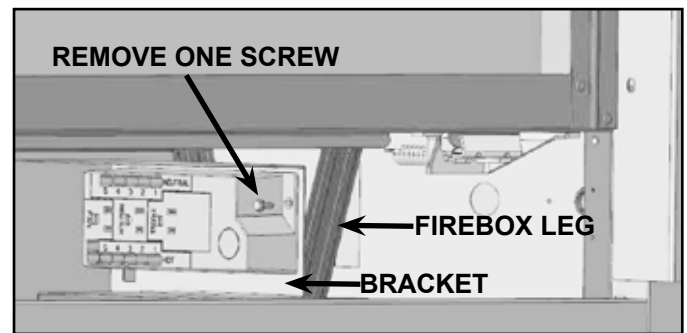

Figure 8.2 Junction Box Detail - COSMO42-IFT
**COSMO42-IFT:** The junction box is secured to a bracket. Remove one screw. See Figure 8.2.